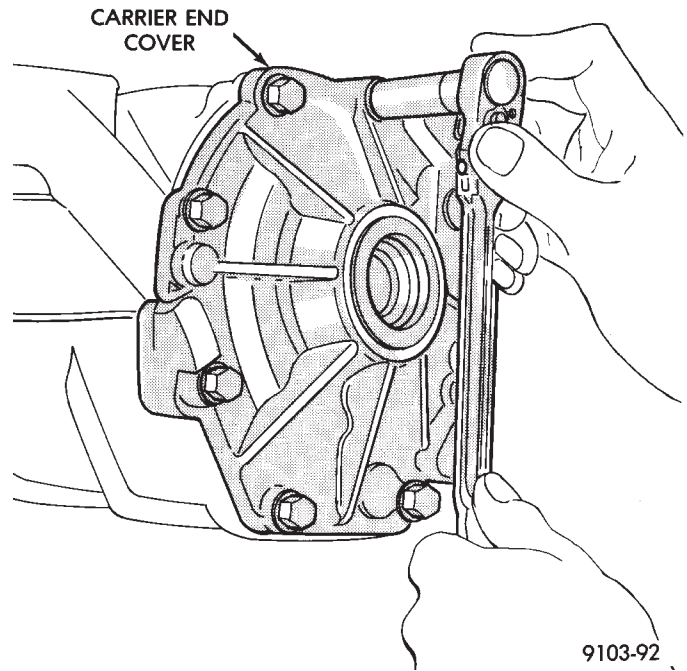

Fig. 2 Remove End Cover Bolts
- (3) Remove output shaft.
- (4) Remove end cover retaining bolts (Fig. 2).